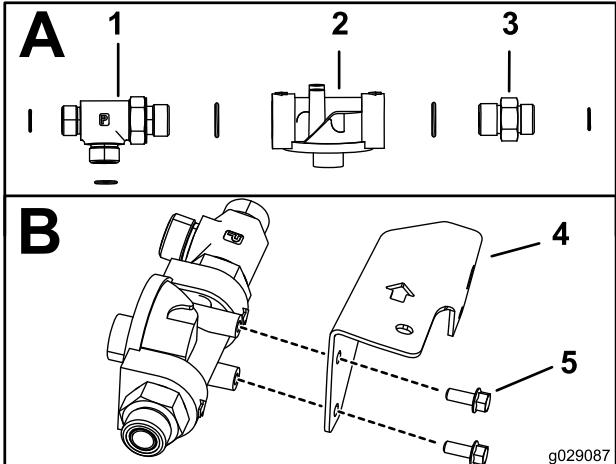

Figure 11
1. Install the tee fitting (5/8 x 5/8 x 3/4 inch male), adapter fitting (5/8 x 3/4 inch male), and O-rings onto the filter-head assembly as shown in Box A, Figure 11.
2. Install the filter head onto the filter-head bracket using 2 bolts (1/4 inch) as shown in Box B, Figure 11.